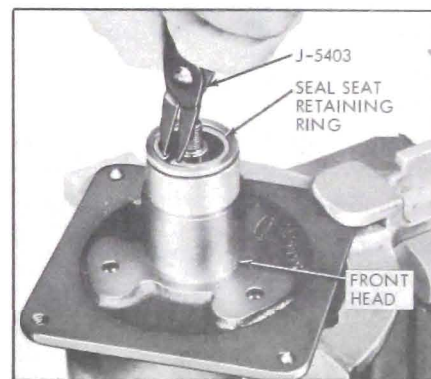

Figure 11-107—Removing Shaft Seal Seat Retaining Ring
2. Remove shaft seal seat retaining ring from inside front head, using J-5403, No. 21 Truarc pliers. See Figure 11-107.